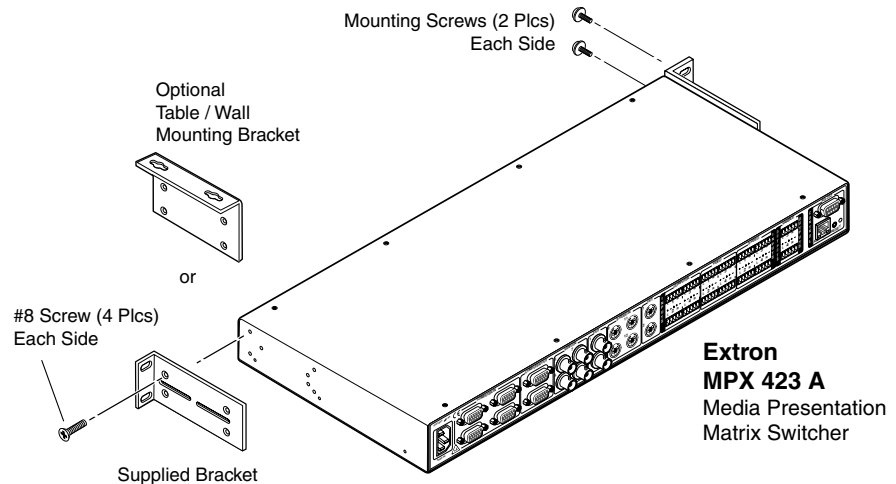

Figure 2-1 — Mounting the switcher
1. Secure the two table/wall mounting brackets included in the under-desk mounting kit to the switcher with the eight machine screws provided in the kit (figure 2-1).